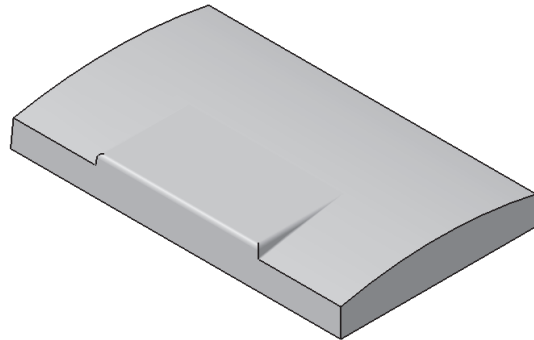

Figure 6-97 The model after filleting the second set
6. Choose the **OK** button from the **Edge Fillet Definition** dialog box. The model, after filleting the second set of edges, is shown in Figure 6-97.